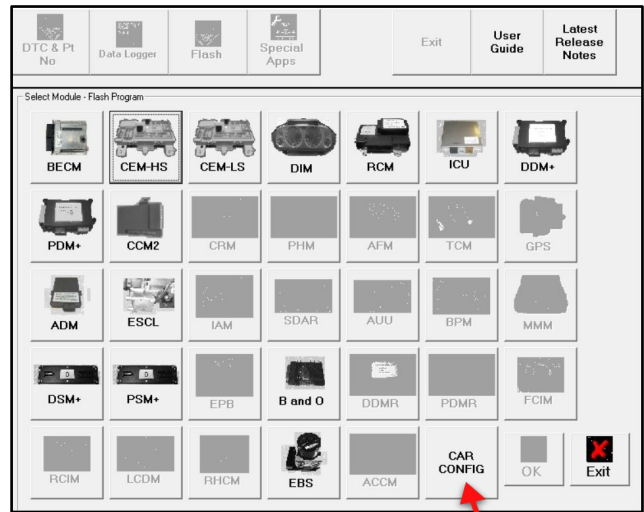

Figure 1
- 4. Click "CAR CONFIG" (refer to Figure 1).